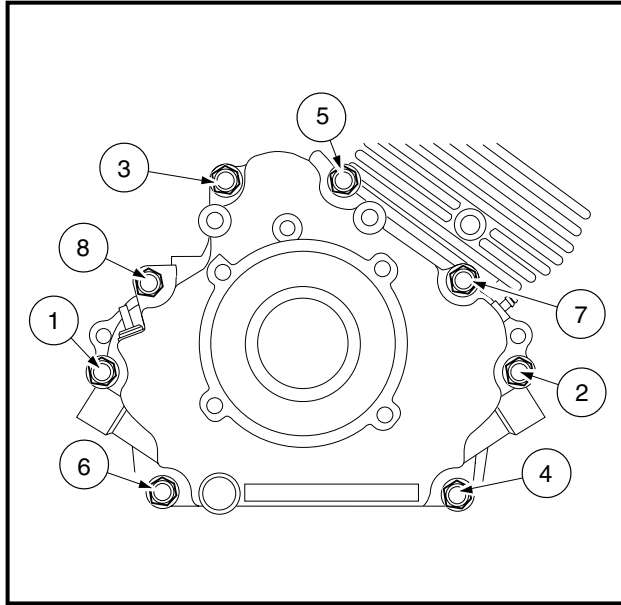

Figure 13-105 Crankcase Cover Installation
3. Install and finger-tighten evenly the eight cover mounting bolts (**Figure 13-105, Page 13-49**).